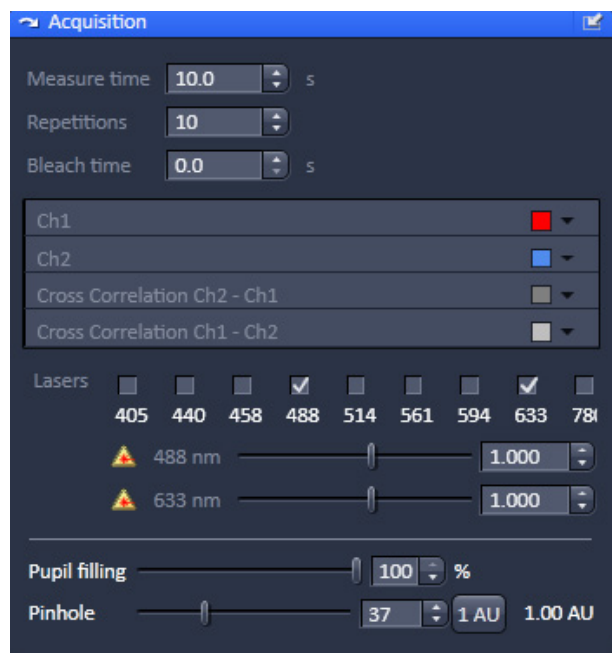

Fig. 246 Acquisition panel
The **Measure Time** (Fig. 246) is the period of **one** measurement. As a rule of thumb the measurement time should be about 1000 x the diffusion time of a molecule under study. However, due to noise in the system a 10 s measurement time is a good start value to obtain good statistical results. Enter a number in seconds in the input box or use the scroll arrows.
- Click on the **Acquisition** tab to open the **Acquisition** panel (Fig. 246). Click on any other tab to leave the panel.